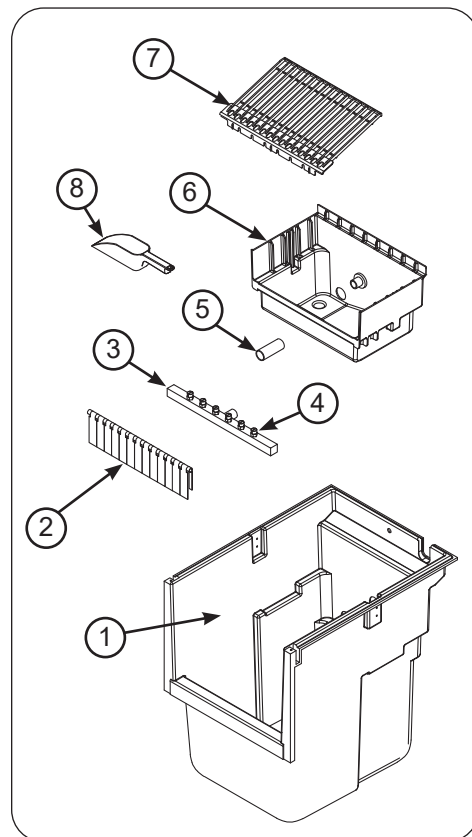

Fig. 15-1 Ice-production system components
4. Pour 4 ounces of an ice machine cleaner (neutral detergent for dishwashing or equivalent) into the water container (6) of the ice maker.
7. Clean the ice container (1), ice curtain (2), nozzle frame (3), spray nozzle (4), connective hose (5), the inside of the water container (6), slide grill (7), and ice scoop (8) using a mixture of washing agent and water. See Fig. 15-1.